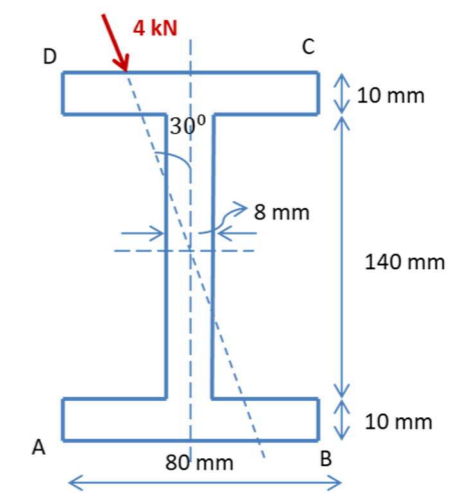

Figure 3
15. (a) A simply supported I-beam of 2 m span carries a central load of 4 kN. The load acts through the centroid, the line of action is inclined at 30° to the vertical direction as shown in the following figure 3. Determine the maximum stress. (14) 5 3